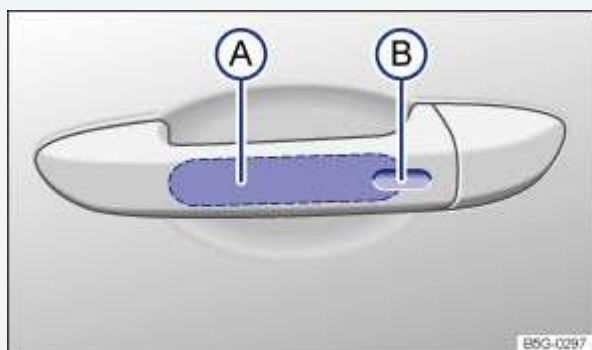

Fig. 31 Keyless Access system: Sensor for unlocking on the inside of the front door handles. Sensor for locking on the outside of the front door handles.
ing system that unlocks and locks the vehicle without active use of a remote control vehicle key. All you have to do is touch a sensor surface on one of the front outside door handles ⇒ Fig. 31 or push the Volkswagen emblem on the trunk lid ⇒ Opening the trunk lid when a valid remote control vehicle key is within range ⇒ .
- Keyless Entry: Unlocking the vehicle with the sensor surfaces on the outside door handles of the driver or front passenger door ⇒ Fig. 31A or by using the Volkswagen emblem on the trunk lid.
- Keyless Exit: Locking the vehicle via the door handle sensor on the driver or front passenger door ⇒ Fig. 31B.
- Grasp the door handle of the driver or front passenger door so that you touch the unlocking sensor surface ⇒ Fig. 31 Ⓐ.
- Touch the sensor surface in the door handle on the driver or front passenger door ⇒ Fig. 31 Ⓑ *one time*. The vehicle is locked. The door being locked must be closed.
To use the convenience closing feature to close all power windows and the sunroof, hold your finger on the lock sensor surface on the outside of the door handle ⇒ Fig. 31® for a few seconds until the windows and sunroof close.